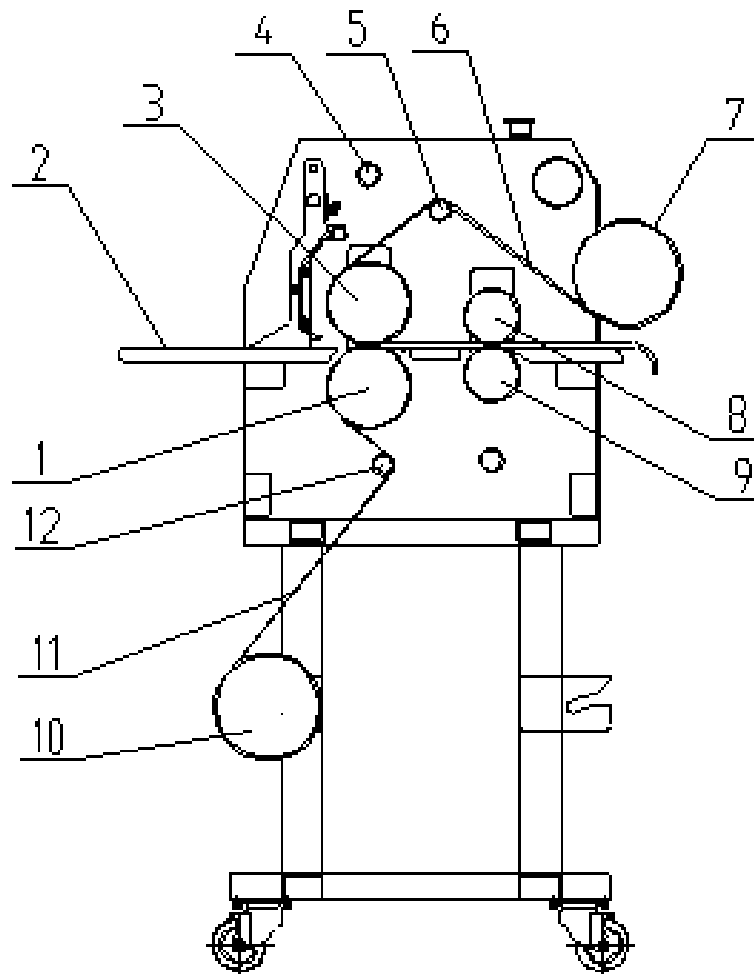

Figure 11
2. Feeding Films (shown as figure 11):